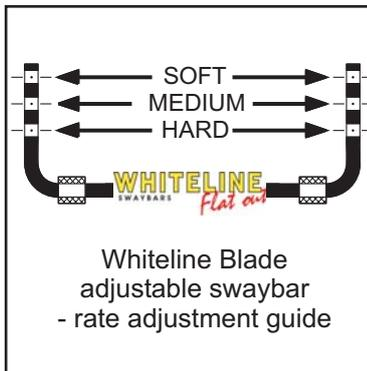

Figure 1. Rate adjustment guide.
1. Assemble endlinks by winding on 2 standard M10 nuts on each endlink thread, followed by 1 saucer washer (facing the nut) and 1 endlink round bush w/o dimple, as shown in figure 1 and photo 1.
**Note:** For adjustable swaybars, refer to figure 1 for swaybar adjustment guide.